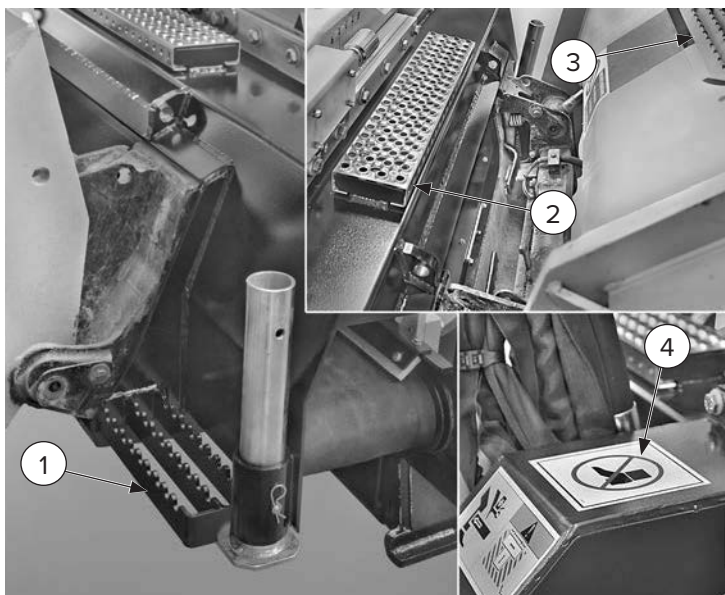

Figure 2
Figure 2 may not represent the attachment described in this manual. The operations in this paragraph are still valid for this model.
- Always ensure you have three (3) points of contact (grip or support) when entering and exiting the host machine to ensure balance is maintained to prevent a fall.
- The foot cannot rest on the valve cover [Figure 2, Item 4].
1. Rest your left foot on the lower step [Figure 2, Item 1] of the attachment.